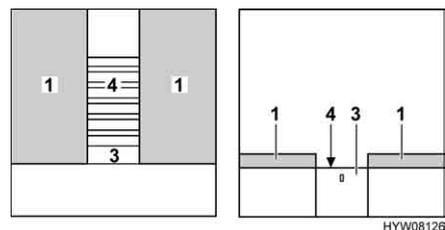

Fig. 91 During conversion
- Pull out slatted frame (Fig. 91,4) completely. To do this, pull on the extension (Fig. 91,3).